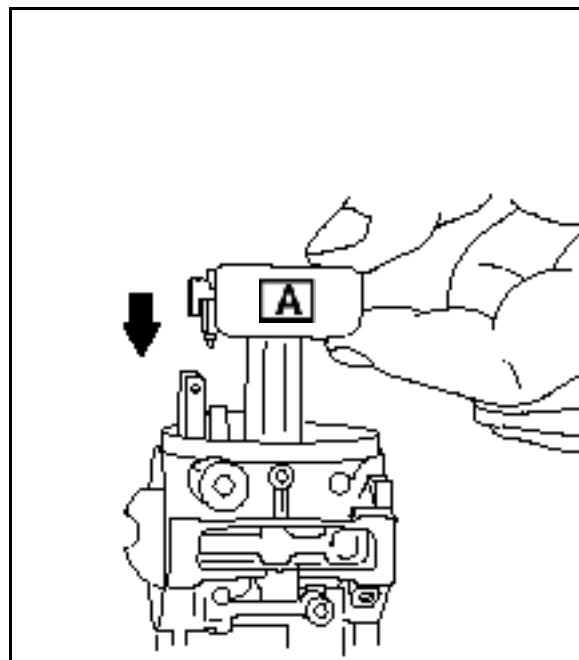

Fig. 66
16. Place float assembly ([A] Fig. 66) in carburetor.